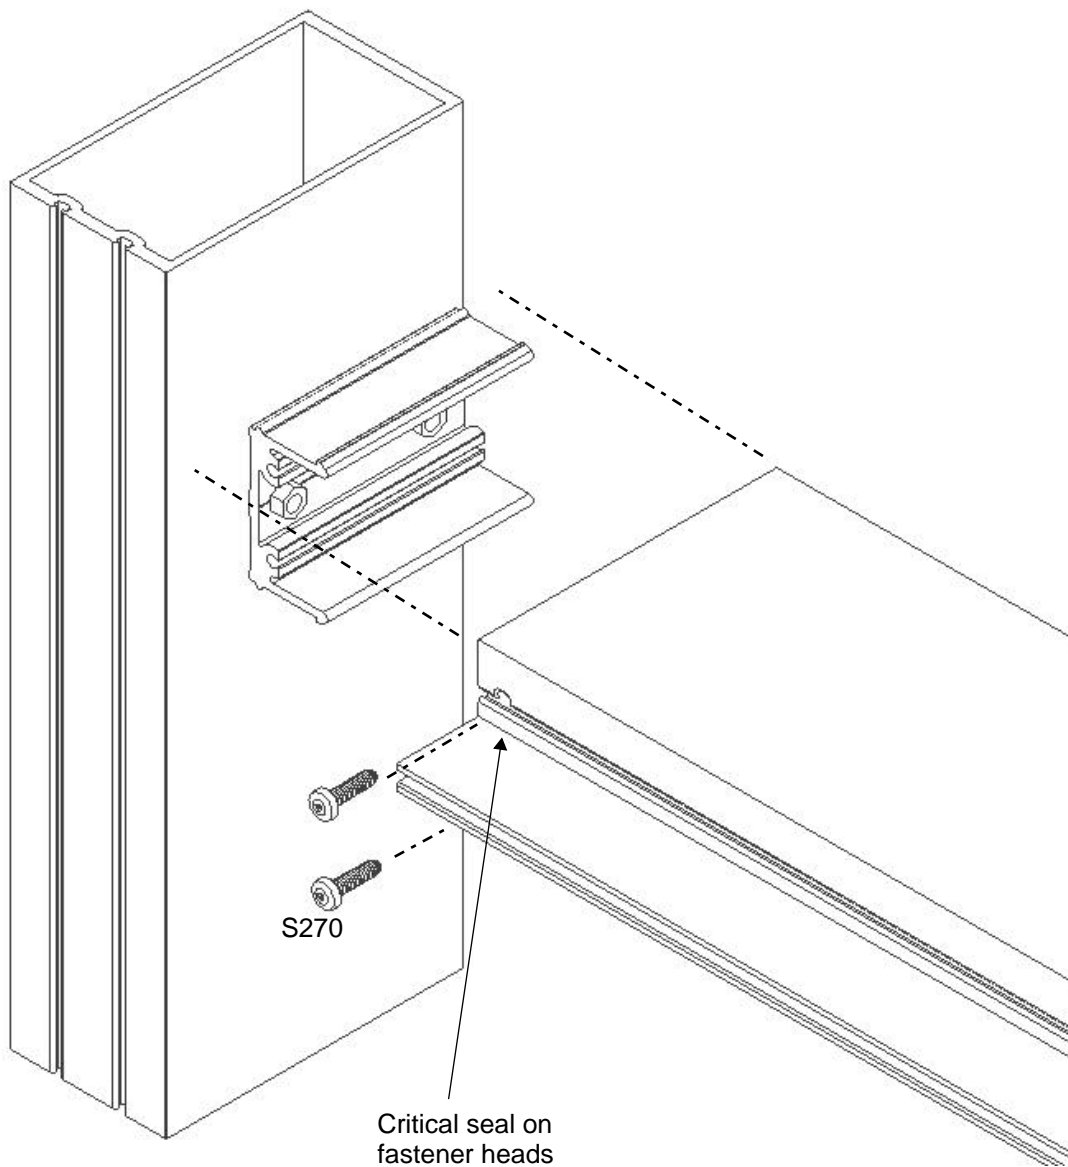

Figure 4: Attach horizontal to vertical.
- Attach horizontal to vertical using two S270 fasteners, as shown in Figure 4.